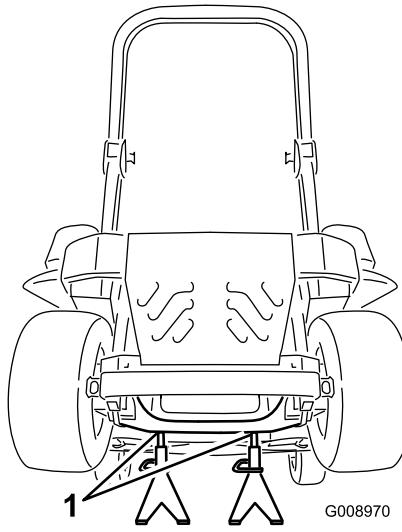

Figure 83
3. Raise the machine and support it with jack stands (Figure 83).
- 9. Remove the jack stands and lower the machine (Figure 83).